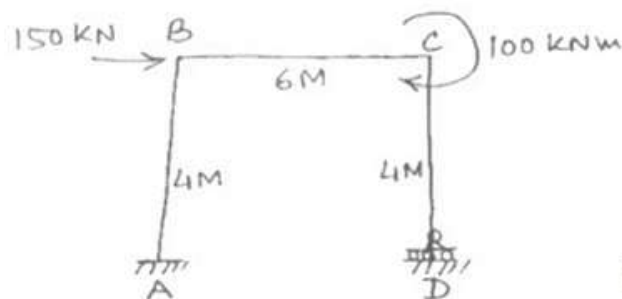

Fig.3
3. Analyse the rigid plane frame shown in Fig.3 by flexibility matrix method. Draw bending moment diagram. Take  $EI$  as constant.